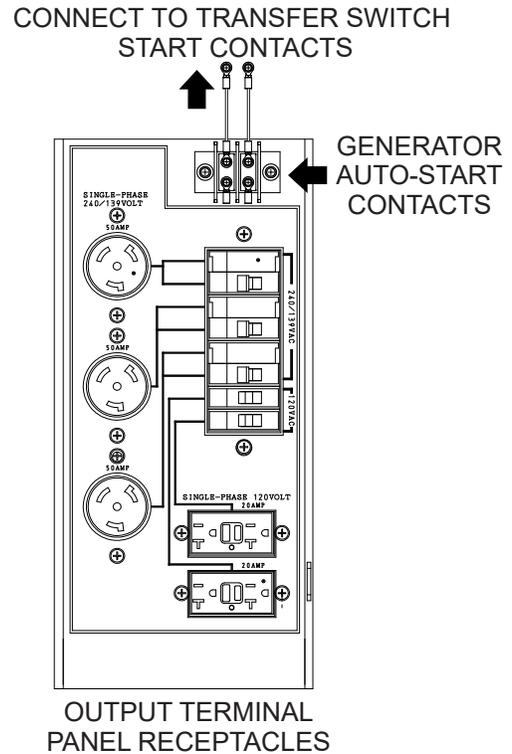

Figure 168. Auto-Start Contacts
- When the generator is connected to a building's AC power source via an **automatic transfer switch (ATS)**, and the building's power has been interrupted (power outage), the ATS will start the generator automatically via the generator's auto-start contacts connected to the ATS's start contacts (Figure 168). If the generator is connected via a **manual transfer switch (MTS)**, close the switch manually to start the generator.